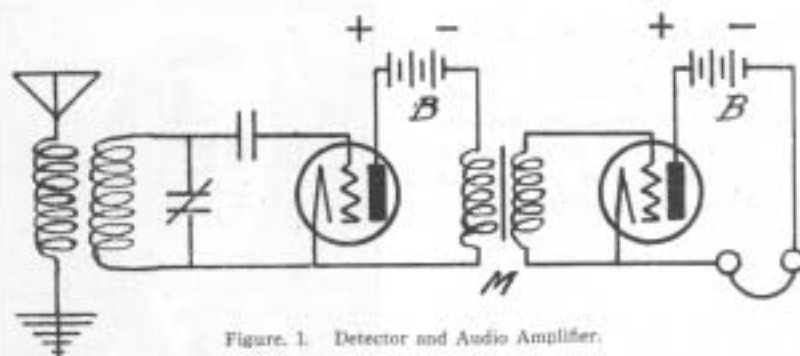
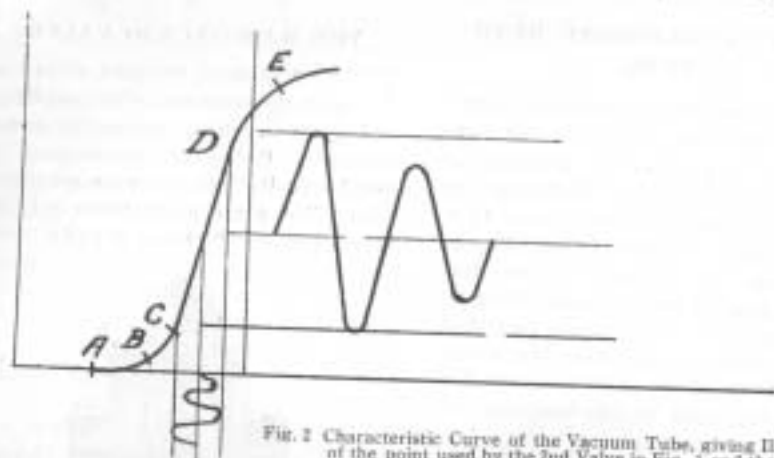

Figure 1. Detector and Audio Amplifier.
Fig. 2 Characteristic Curve of the Vacuum Tube, giving illustration of the point used by the 2nd Valve in Fig. 1 and the 1st Valve in Fig. 2.
In a case where reception is quite successful with only a detector tube, but louder signals are desired, the manner of adding one stage of audio-frequency is shown in Figure 1. "M" is a small iron core transformer, the ratio of the primary winding to the secondary being about 1 to 3. The electrical characteristics of the primary winding should be the same as those of a pair of phone receivers. The first tube is adjusted to function as a detector, that is, it is working on the bend of the grid voltage-plate current curve. The second tube, however, is operated on the straight part of the curve, and a glance at Figure 2 will show why this is done.
It has to be remembered that whatever is detected by the first tube must be faithfully reproduced by the second tube, but with increased amplitude. If reference is made to the straight part of the curve between points "C" and "D" in Figure 2, it will be seen that such faithful reproduction is achieved when the valve is so adjusted. The incoming variations actuating the grid are repeated in the plate circuit, without distortion, but with considerably more volume—this is the very action we need, in fact, as will become evident by experience, any difference of potential applied to the grid will be reproduced in this manner.
M.2 is practically the same thing. The first tube is adjusted for amplification—i.e., straight line operation between points "C" and "D" in Figure 2, while the second is for detection, to be adjusted about point "B" on the curve in Figure 2. The tuning units are all set for some definite wavelength, and the following action takes place:—The radio-frequency waves are conducted to the first tube, and, without detection, are repeated, with